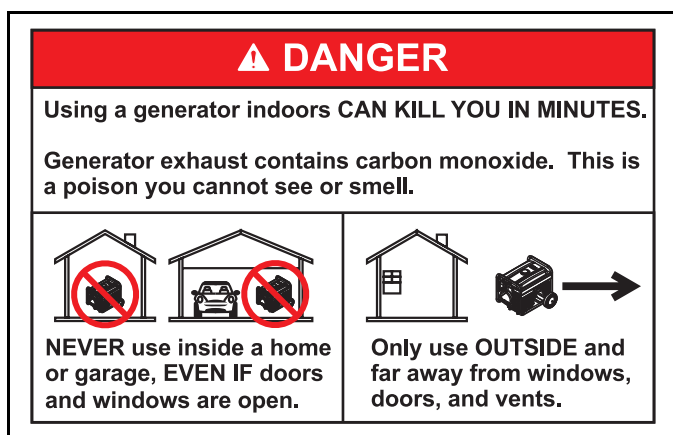

Figure 1-1. Exhaust Hazard
- NEVER operate in an enclosed area, in a vehicle, or indoors EVEN IF doors and windows are open. See Figure 1-1.